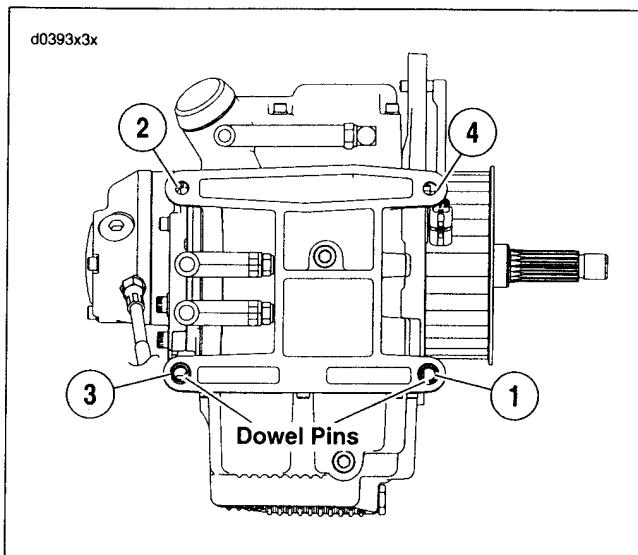

Figure 3-16. Transmission Housing to Crankcase Torque Sequence
4. See Figure 3-16. Tighten the four transmission mounting bolts in the sequence shown as follows.